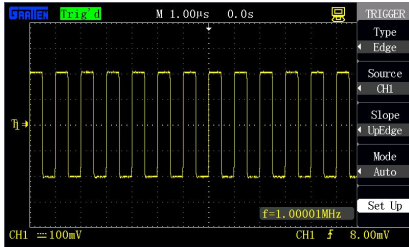

Figure 2-29 Edge trigger
1. **Edge trigger:** the most basic as well as the most common trigger type, as shown in figure 2-29.